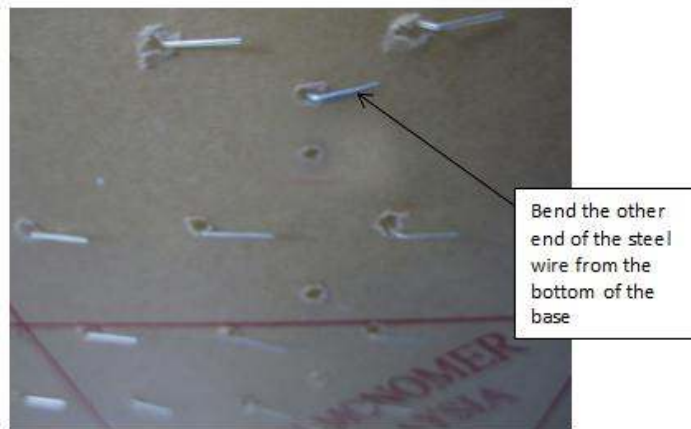

Figure 44: Install the cathode riser of 1st LEDs layer
8. Bend one end of the steel wire 90 degree. Solder it to the cathode of the 1st LEDs layer. Let the other end pass through the 1st hole of hole on the base specialized for cathode risers to pass through. Then, bend the other end of the steel wire from the bottom of the base in the direction indicated in Figure 44 below.